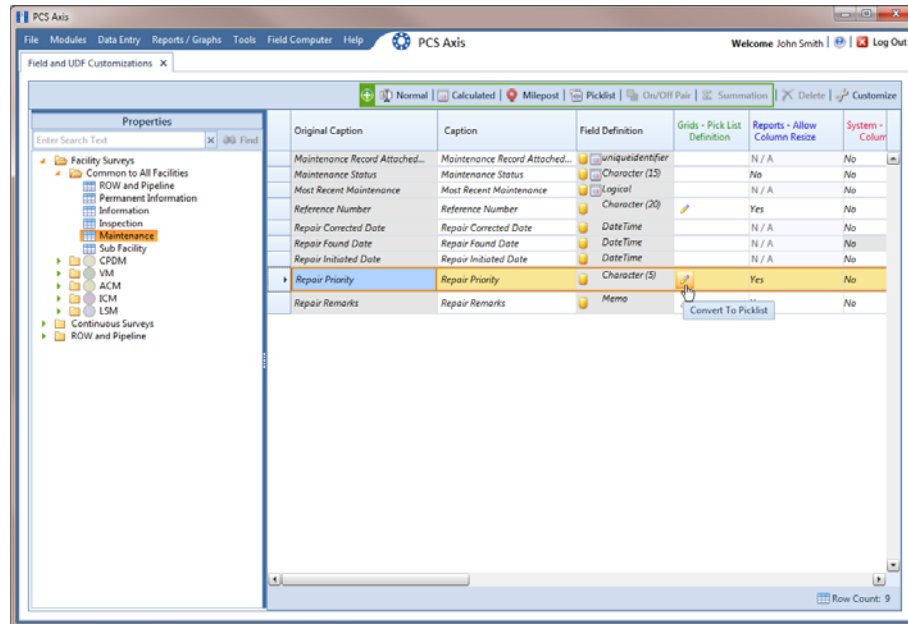

Figure 3-41. Field and UDF Customizations
For example, double-click **Facility Surveys** > **Common to All Facilities** > **Maintenance** to display a grid with fields and property settings related to all *Maintenance* data entry grids (Figure 3-41).
- Convert the selected data entry field to a *Standard Picklist* field. Click the edit icon  in the *Grids-Picklist Definition* field for the data entry field selected earlier, such as *Repair Priority* (Figure 3-41, page 85).